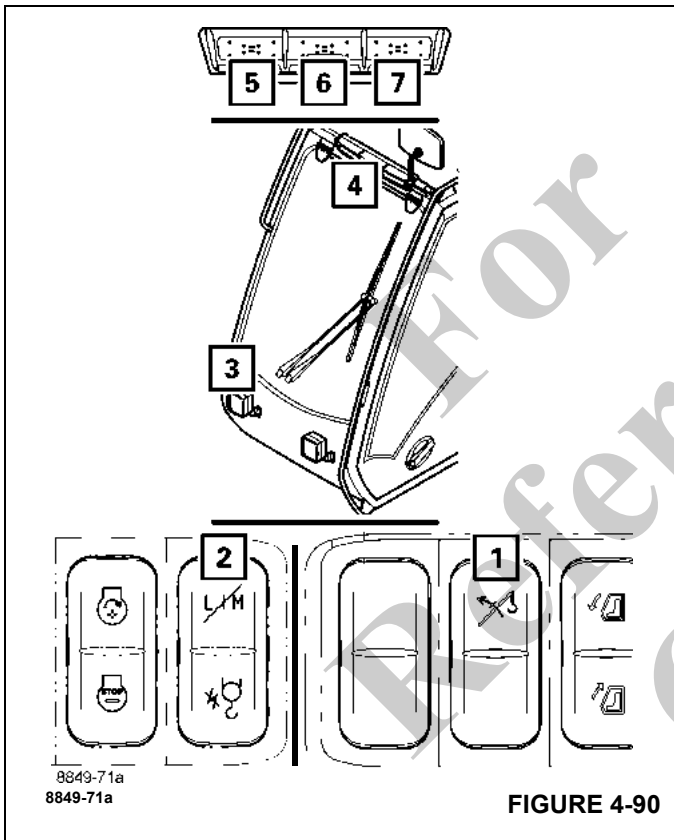

FIGURE 4-90
The lamps (5), (Figure 4-90) to (7), (Figure 4-90) of the external light bar (4), (Figure 4-90) light up or flash depending on the RCL degree of utilization and button confirmations.